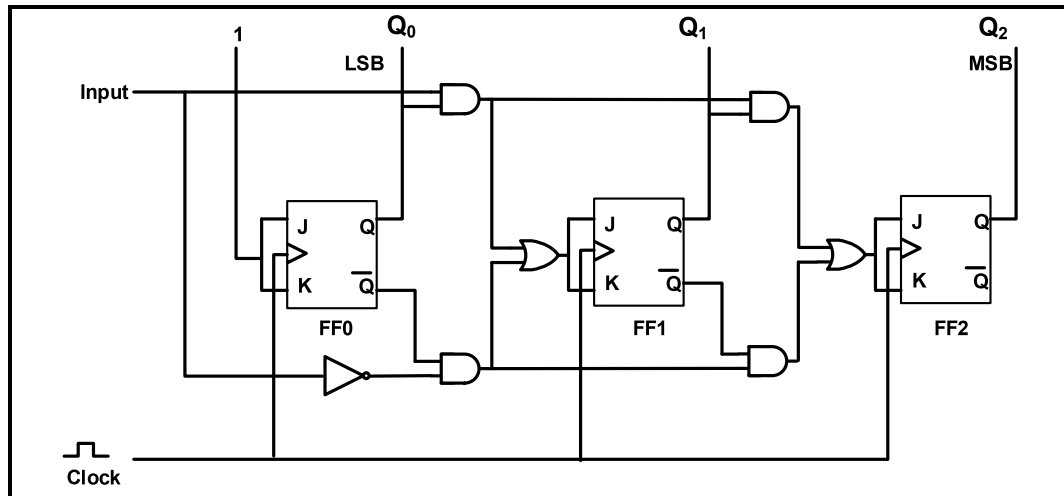

FIGURE 5.10
5.10 Refer to FIGURE 5.10 of a counter below and answer the questions that follow.
5.10.1 Identify the circuit in FIGURE 5.10. (1)